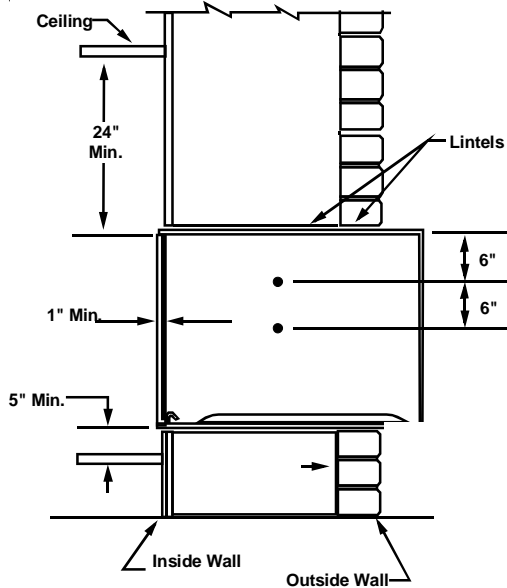

Figure 2
- The wall sleeve must be installed with a 5" minimum clearance to the floor and 1 1/2" to adjacent walls. See Figure 2 for minimum projections of the sleeve into and out of the room.
3. Locate the sleeve within the range of minimum projections, as shown in Figure 2, so both sides are at least the minimum projection from the wall.